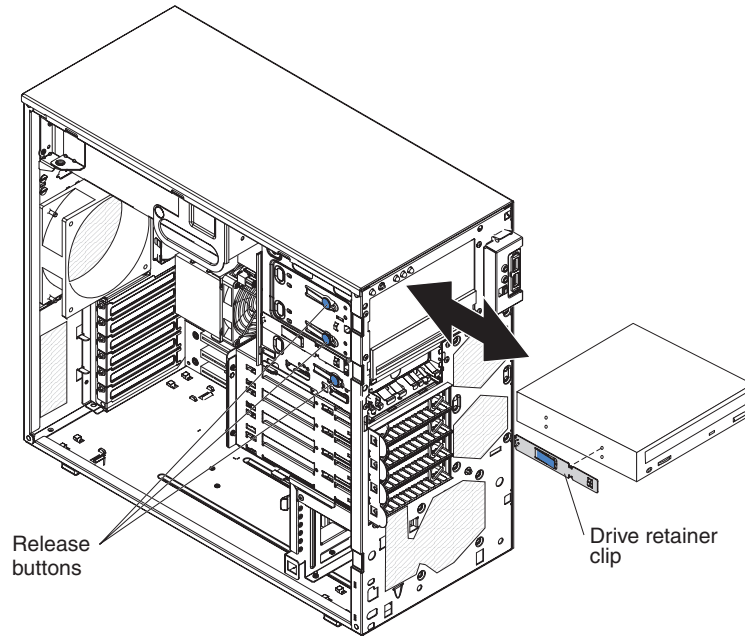

Figure 26. Installing a drive in bay 1, 2, or 3
5. Push the drive into the front of the bay until it clicks into place (see Figure 26).